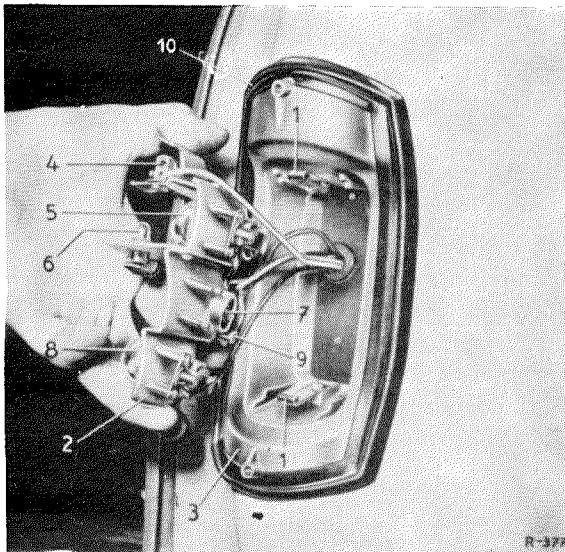

Fig. 52 — 2/2
19. If necessary, adjust the draw-bar link plates (21) to fit the chassis base panel. Then use a car jack to press them lightly against the chassis base panel and electrically weld them on (see Fig. 52 — 2 1).
23. Remove the casings together with the transparent pane and the base plate (2) on which the lamp holder is mounted (Fig. 52 — 2/2).
24. Connect an additional grey/black cable, 1.5 mm² in section and 1300 mm long, to the tail light (4) of the left brake light and tail light (see Fig. 52 — 2/2).
25. Connect an additional grey/black cable, 1.5 mm² in section and 1300 mm long, to the tail light (4) of the right brake light and tail light (see Fig. 52 — 2/2) and an additional black/red cable, 1.5 mm² in section and 1300 mm long, to the brake light (5).